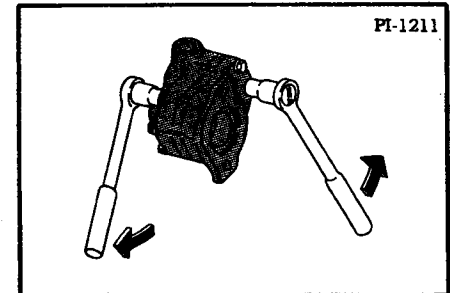

Fig. 136 Removing Pump Body Screws
4. Remove all the screws from the pump body (Figure 136). Some of them enter from the shaft end and some from the cover end.